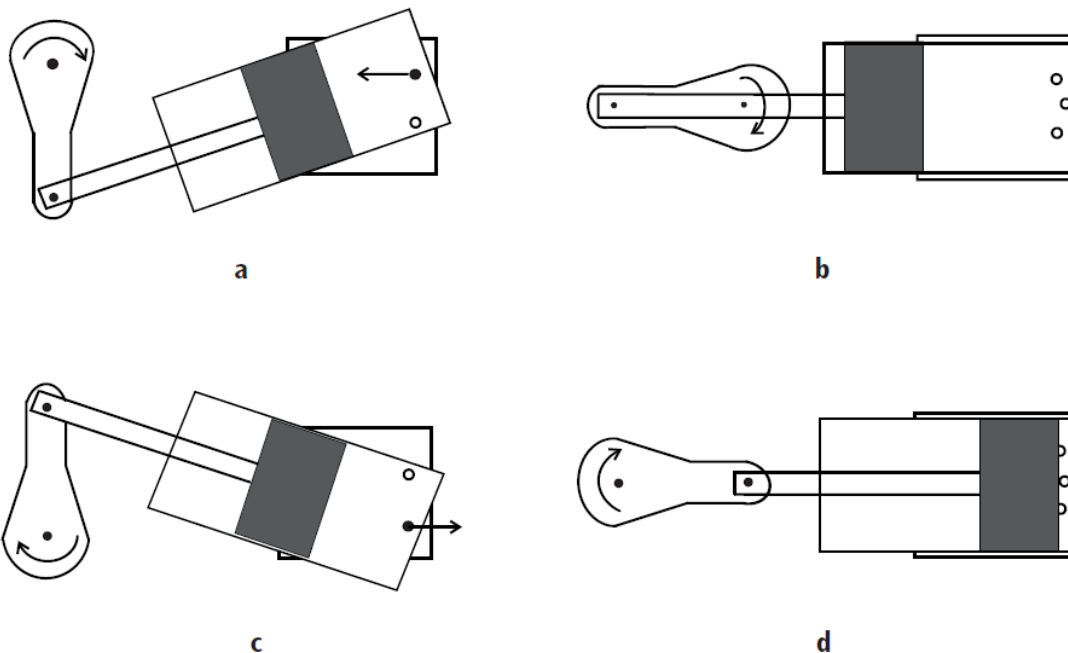

Fig. 1: Work cycle of an oscillating steam engine
Unlike a slide-valve steam-engine, an oscillating steam engine has a cylinder that rotates on a central shaft causing steam inlet and outlet ducts to open and close. Water in the boiler begins to boil, and thus steam is generated. The steam flows via the steam inlet hose (12) into the frame then through the steam inlet hole. As soon as the opening of the cylinder is fed with fresh steam, steam flows into the cylinder and displaces the piston (Fig. 1, a). When the piston reaches its lowest point, the steam ducts are closed. This slack point is passed thanks to the inertia of a flywheel (Fig 1, b). In the next phase, the piston moves back, opens the steam outlet and pushes out the steam (Fig. 1, c). The steam flows out via the exhaust steam hose (2) and the exhaust steam pipe br. The condensed water that accumulates drips out via the condensation hose (1) into the condensation beaker (19).
When the piston has reached the dead point at the top, both of the steam ducts are closed again. The flywheel drags the engine past this top slack point, after which steam is once again fed in and the procedure repeats from the start (Fig. 1, d).